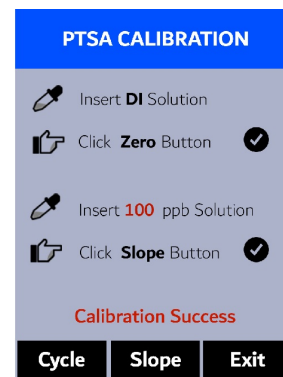

Figure 6.
10. If the calibration succeeds, a checkmark ( ✓ ), a “**Calibration Success**” message will appear (Figure 6). Otherwise, a warning message is displayed.